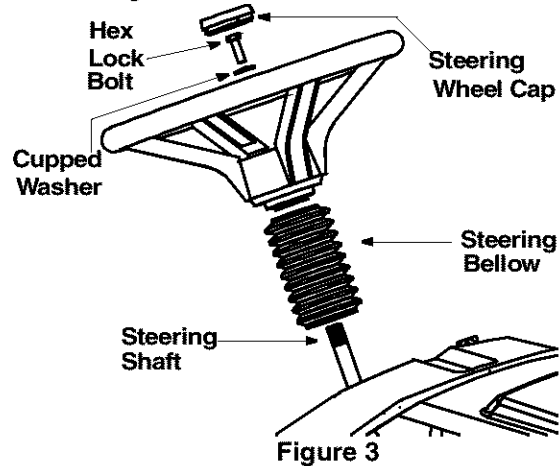

Figure 3
- Remove the steering bellow from the lift lever on the right hand side of tractor. Place steering bellow over the steering shaft extending through the dash. See Figure 3.
- Keeping the wheels of the tractor pointing straight forward, place the steering wheel over the steering shaft. Place the washer with the cupped side down over the steering shaft. Secure with hex lock bolt. See Figure 3.